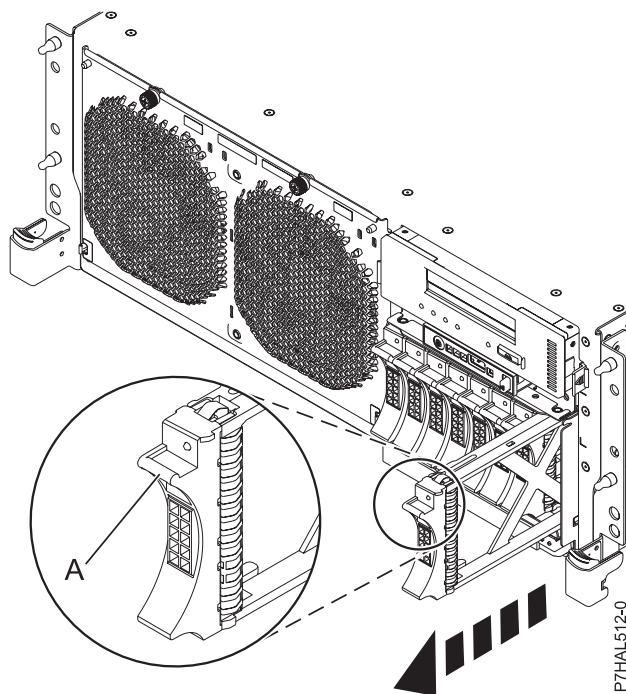

Figure 59. Removing a disk drive filler from the server
2. Hold the filler handle (A) and pull out the disk drive filler from the slot, as shown in Figure 59.